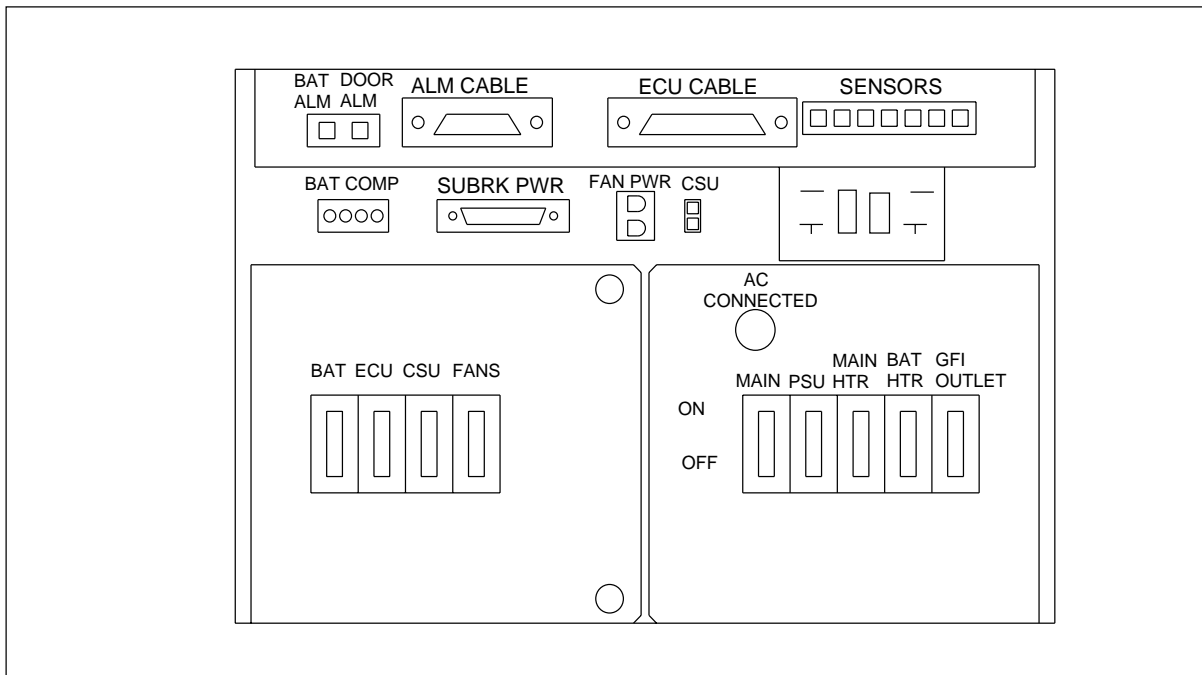

Figure 4-10. AC/DC Distribution Box
1. Position the **BAT** circuit breaker on the left side of the AC/DC Distribution Box to OFF. See Figure 4-10 on page 4-24.